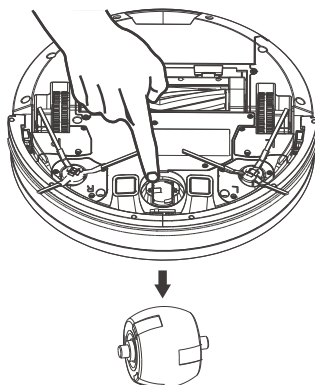

Figure 2
- Take off the front wheel with a screwdriver, clean hairs in the wheel cavity and the axle twice a week. (See figure 2)